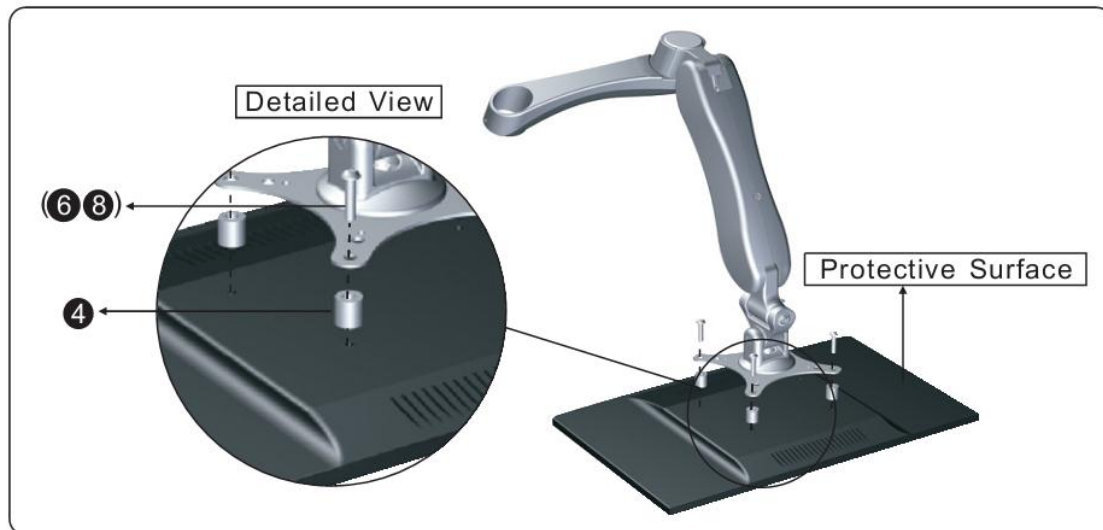

Figure 2-2
4. Select the proper length of Screws **(6, 8)** that suit your monitor's specifications. Place the Spacers **(4)** on the back of display, follow by positioning the mounting holes in the Tilter Mount Bracket so that the mounting holes on the Tilter Mount Bracket and Spacers **(4)** are aligned **(See Figure 2-2)**.